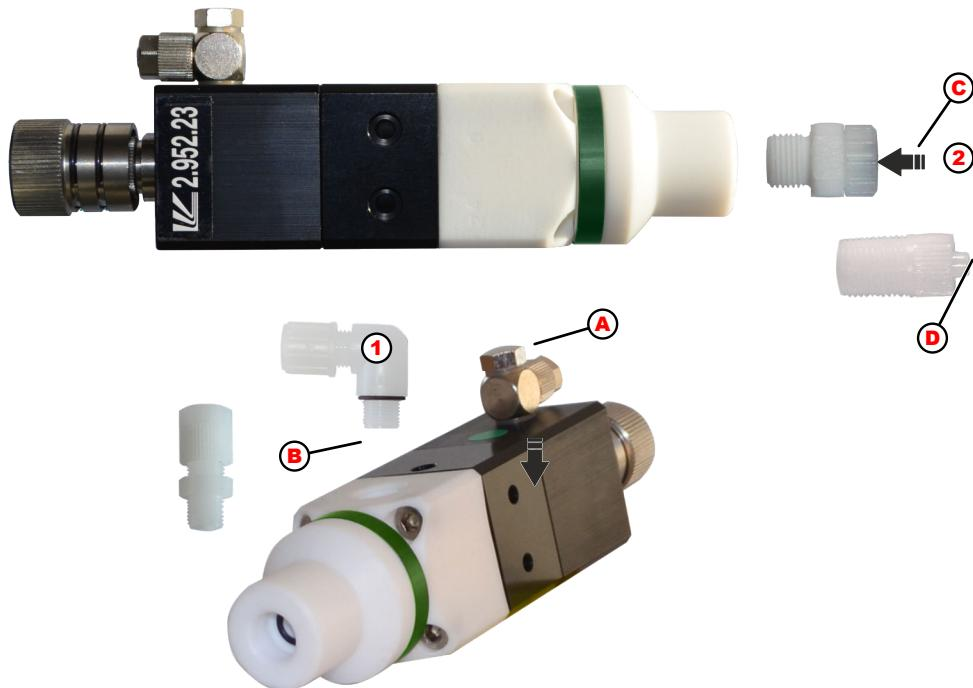

Fig. 1: EP and EP-FD dosing valves 295218, 295219, 295223: Connections for product inlet and outlet (fig. example with valve 295223)
2. Remove elbow joint (Fig. 1, pos. 1/A) from the packaging.